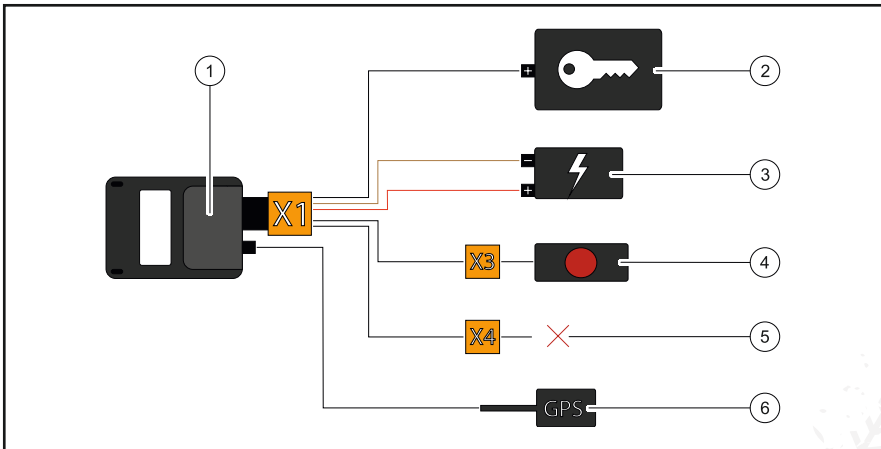

Fig. 5: Connecting the cable harness
2. Lay the cable with the 16-pin connection **X1** at the installation location of the dguard® module (Fig. 5/1).
3. Lay the cable with the 3-pin connection **X3** for the dguard® button (Fig. 5/4) on the handlebar.
4. Ensure that the cable of the GPS antenna (Fig. 5/6) can reach from the installation location of the GPS antenna to the installation location of the dguard® module (Fig. 5/1) (Chapter „3.3 Installing the GPS antenna“, p. 16).
5. Connect the black wire to the positive terminal of the power circuit activated by the ignition (Fig. 5/2).
7. Connect the brown wire to the negative terminal of the vehicle battery (Fig. 5/3).
8. Connect the red wire to the positive terminal of the vehicle battery (Fig. 5/3).
The 2-pin connection **X4** (Fig. 5/5) is reserved for accessories. To guarantee protection class IP67, all plugs must be connected and engaged fully. The vacant 2-pin connection **X4** has a dummy plug that only needs to be removed if you intend to attach accessories